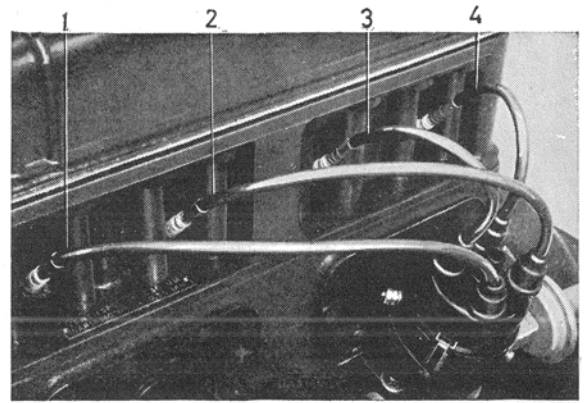

Fig. 65. Ignition cable attachments.
5. Check that the rotor points to the terminal leading to number one cylinder. Fit the distributor cap and cables as shown in Fig. 65. The rotor moves clockwise. The order of firing is 1-3-4-2.